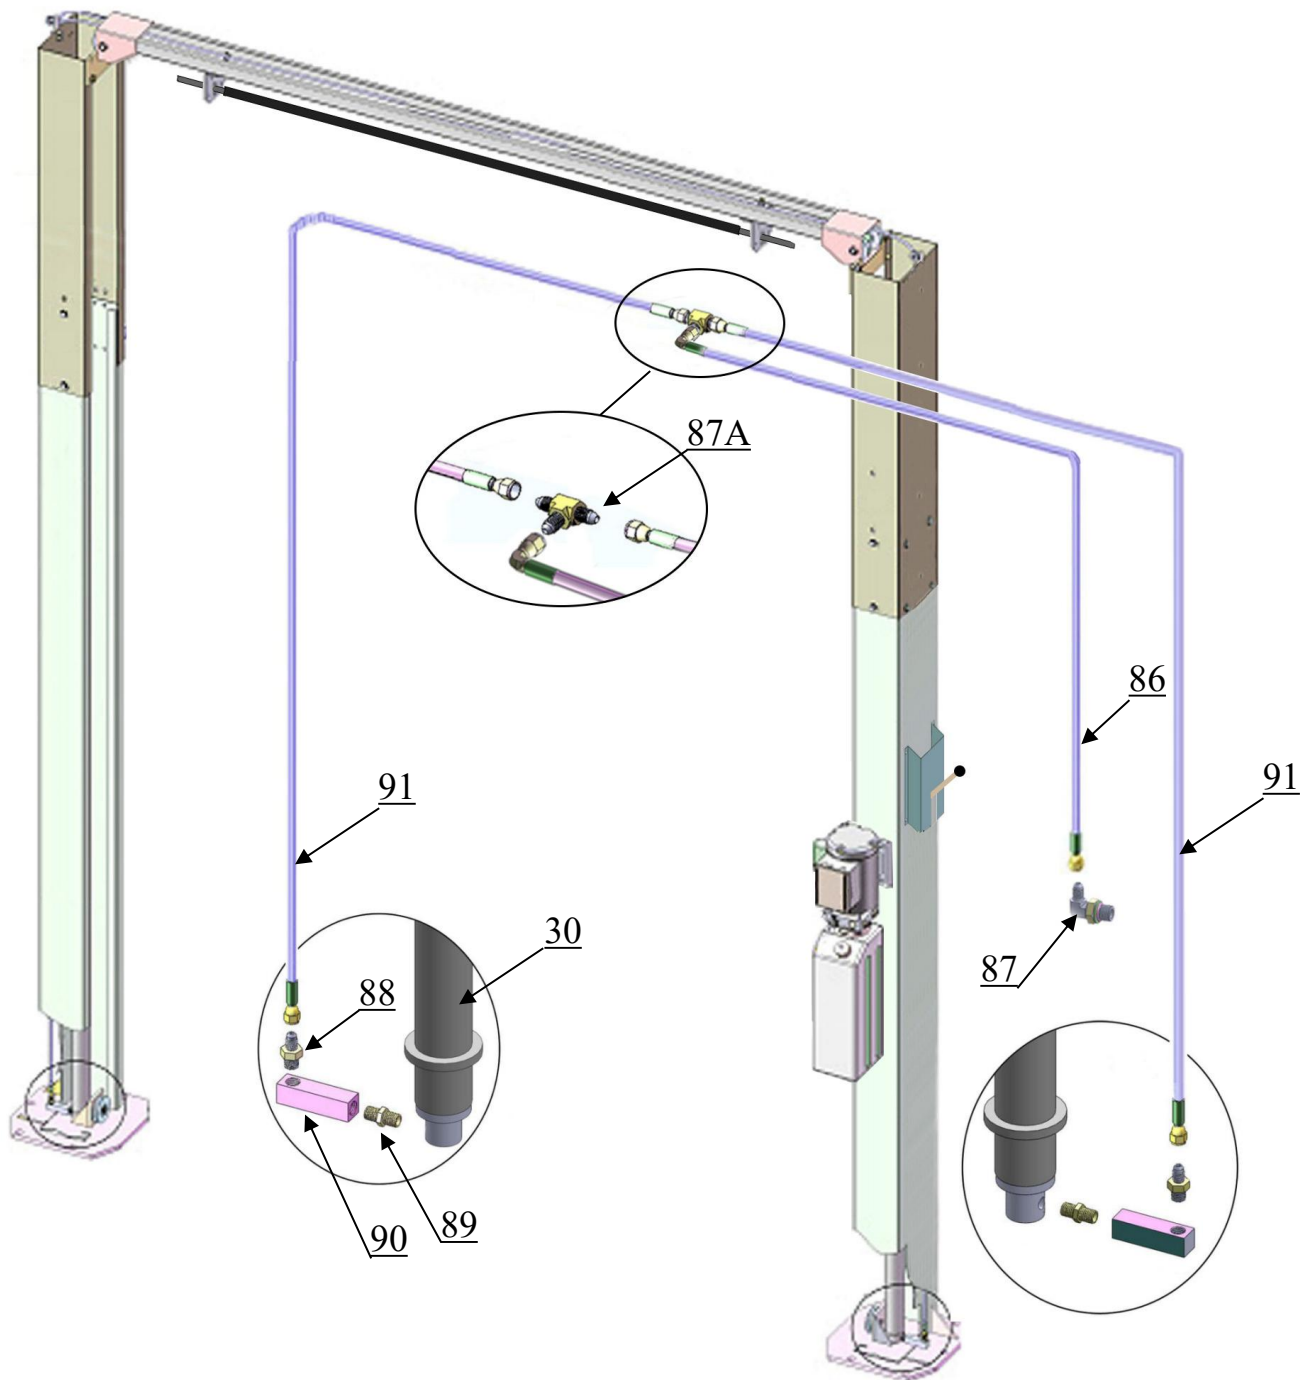

Fig.28
1. Oil-line connecting drawing. (See Fig.28)